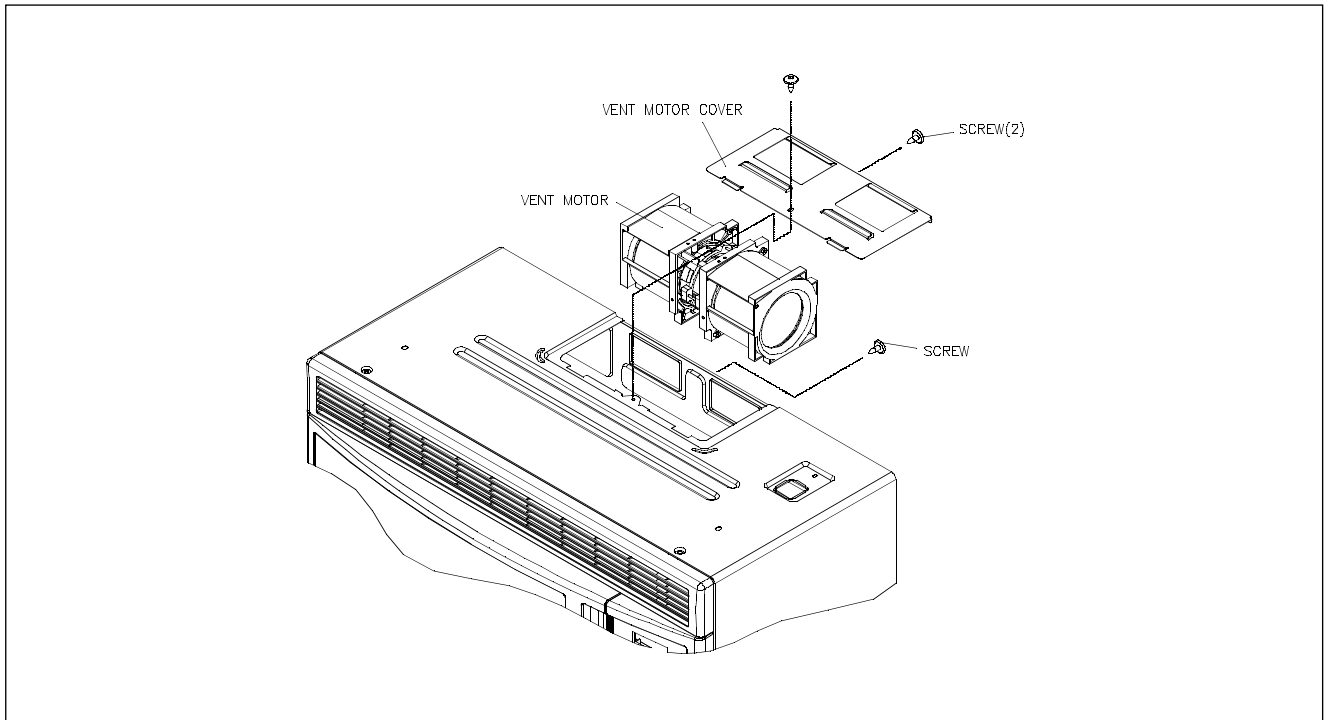

FIG. 14
3. Remove the screws for the vent motor and lift the vent motor. (See FIG. 14).